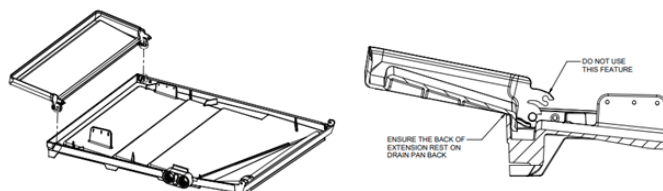

Figure 4A
1. A drain pan extension is shipped with coil in the accessory kit box (Figure 4A). This extension is to be used only for horizontal left application used only for higher than normal humid application. **During horizontal right application, this Drain Pan Extension**